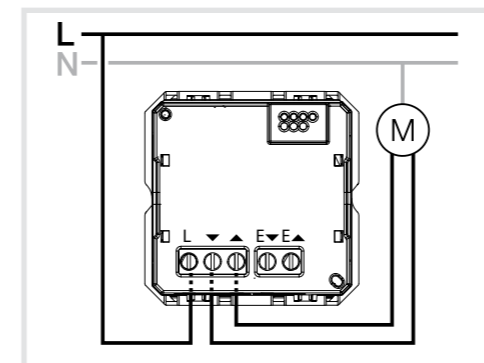

Figure 3: Connecting diagram blind switch
- Connect blind switch module (2) according to connection diagram (figure 3).
- Insert and snap blind switch module (2) into the supporting ring (1). The connecting terminals must be at the bottom.
- Attach touch rocker (3) and frame (4).